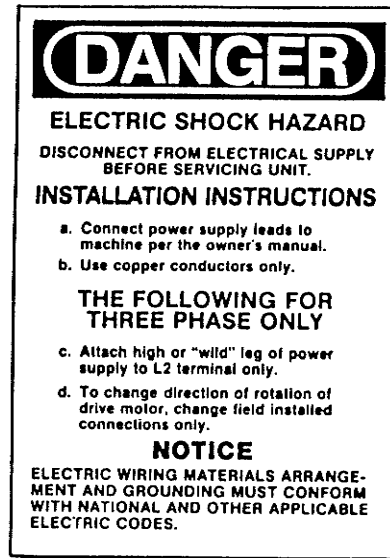

Figure 8. Danger Decal
- D. Please read decal located on lower electrical box cover (Fig. 8).